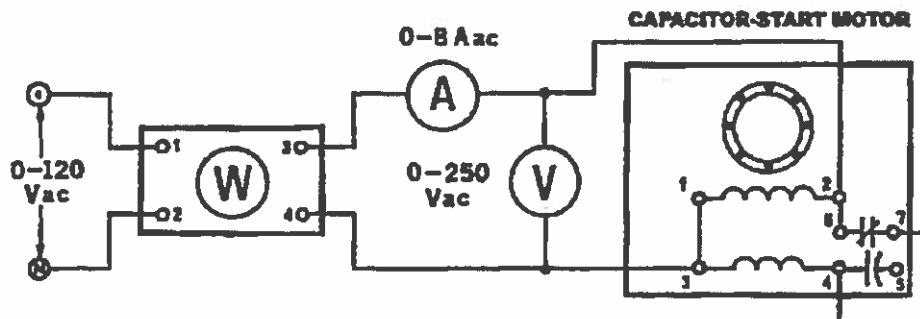

Figure 33-4.
5. Using your Single-Phase Wattmeter, AC Ammeter and AC Voltmeter, connect the circuit shown in Figure 33-4.